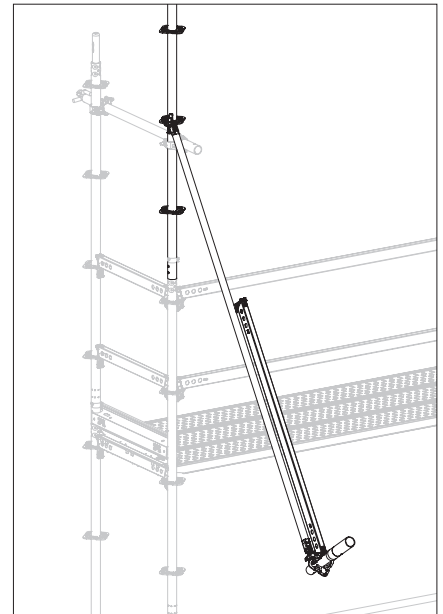

Fig. A4.04b
2. Install the node brace on the fixed rosette of the standard, making sure that the bolt is locked in place. (Fig. A4.04b)